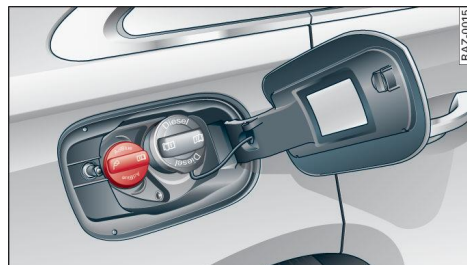

Fig. 152 Vehicle as seen from the rear right: Unscrewing the AdBlue cap
- Unscrew the cap on the filler neck anti-clockwise ⇒ Fig. 152.